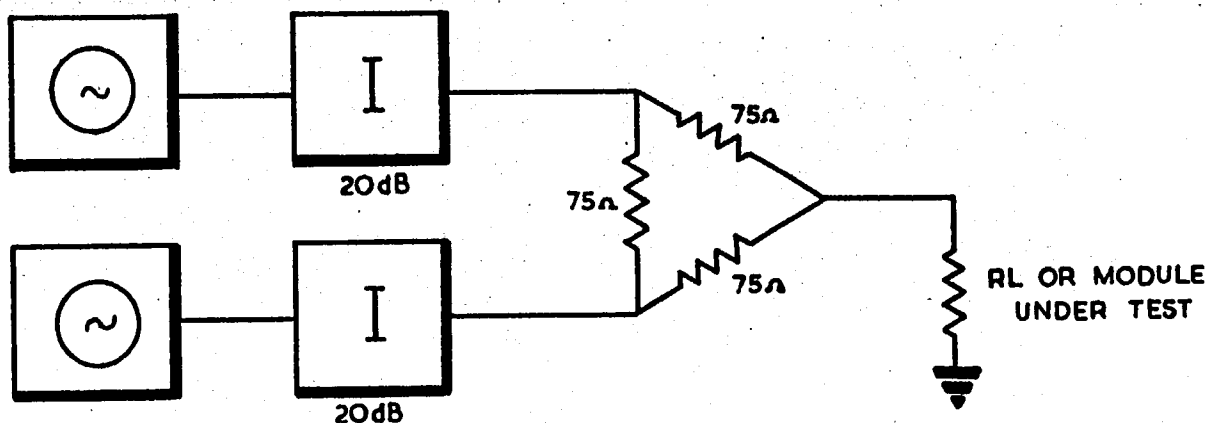
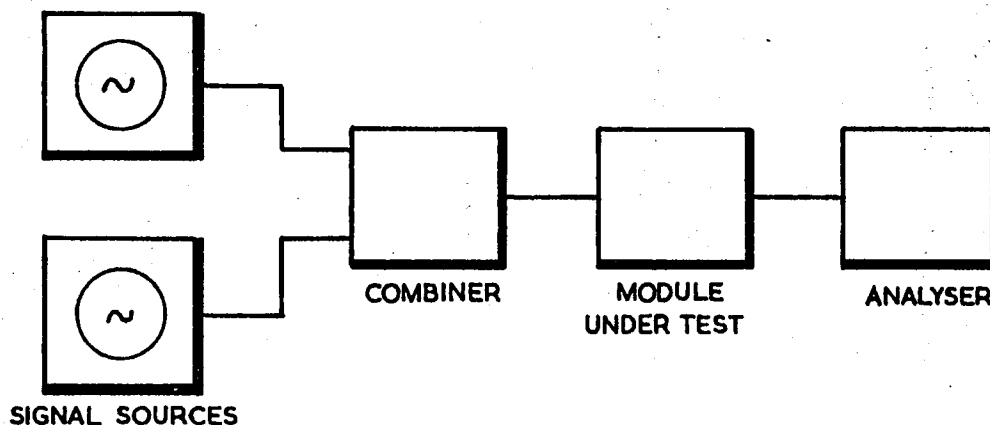

Fig. 21.1
Fig. 21.3
- (2) Spectrum Analyser of 75 ohm input impedance to examine R.F. spectra at 1 kHz, 100 kHz, 1 MHz, 10.7 MHz and 30 MHz. Minimum input level 5mV for wanted tones, with intermodulation products greater than 40dB down. The analyser should be capable of resolving sidebands and wanted signals spaced 1 kHz apart.
- (3) Signal source isolating and combining network. This network provides 40dB isolation between the signal sources, to avoid intermodulation between them. The signals must then be combined to provide a 75 ohm output impedance so as to provide a match to the modules under test. The arrangement is shown in Fig.21.1.
The equipment should be connected as shown in Fig.21.3. For each module, the input level of the two tones is specified in terms of an r.m.s. voltage which appears across a load of 75 ohms, i.e.  $R_L = 75 \text{ ohms}$  in Fig.21.1. In practice the actual input to the module differs from this value, because of departures from the nominal 75 ohm input impedance.
The input levels should be adjusted by measuring the voltage developed across a 75 ohm load, which is then replaced by the module under test or, if the combiner shown in Fig.21.1 is used, by adjusting the signal source to give a level 26dB above the required level as measured across the input to the attenuator.